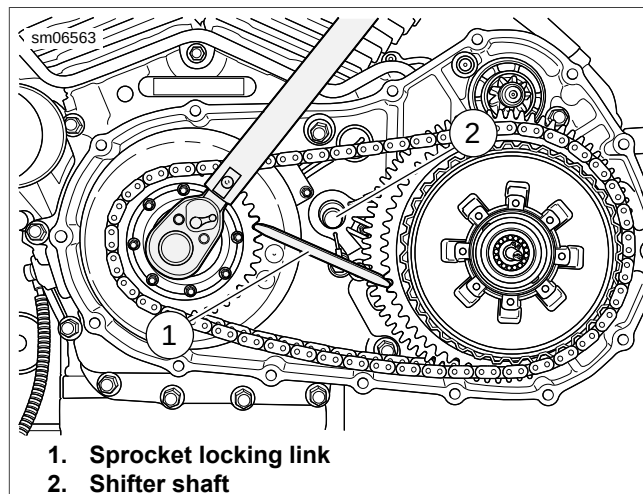

Figure 5-33. Tighten Engine Sprocket Bolt
- See Figure 5-33. Do not position the sprocket locking link (1) too close to the shifter shaft (2). The sprocket locking link can damage the shifter shaft and/or engine crankcase.
- See Figure 5-33. Install SPORTSTER 5-SPEED SPROCKET LOCKING LINK (Part No. HD-38362) (1).